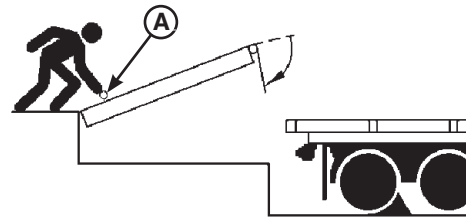

Figure 15
- a. Raise the platform to the fully raised position by pulling and holding the platform release ring (A) (Figure 15).